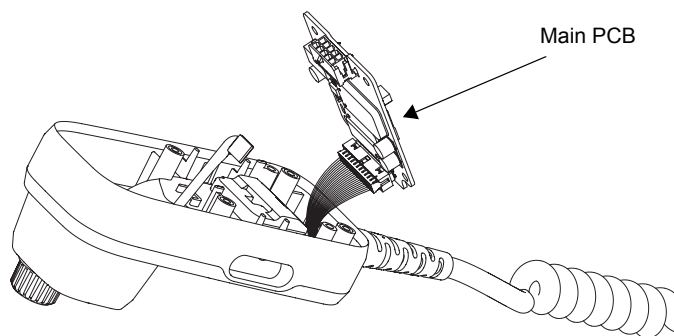

Figure 6-27 Spiral Cord Cable Wire Removal
7. Unplug the spiral cord cable wire to board connector from the Cradle main PCB. Refer to Figure 6-27.